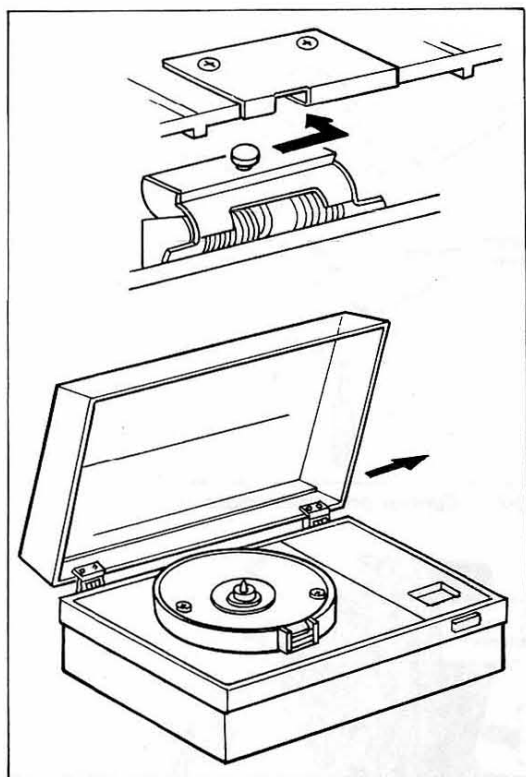

Fig. 2-1. Top cover removal
2. Carefully push the hinge backward. This frees the top cover as shown in Fig. 2-1.